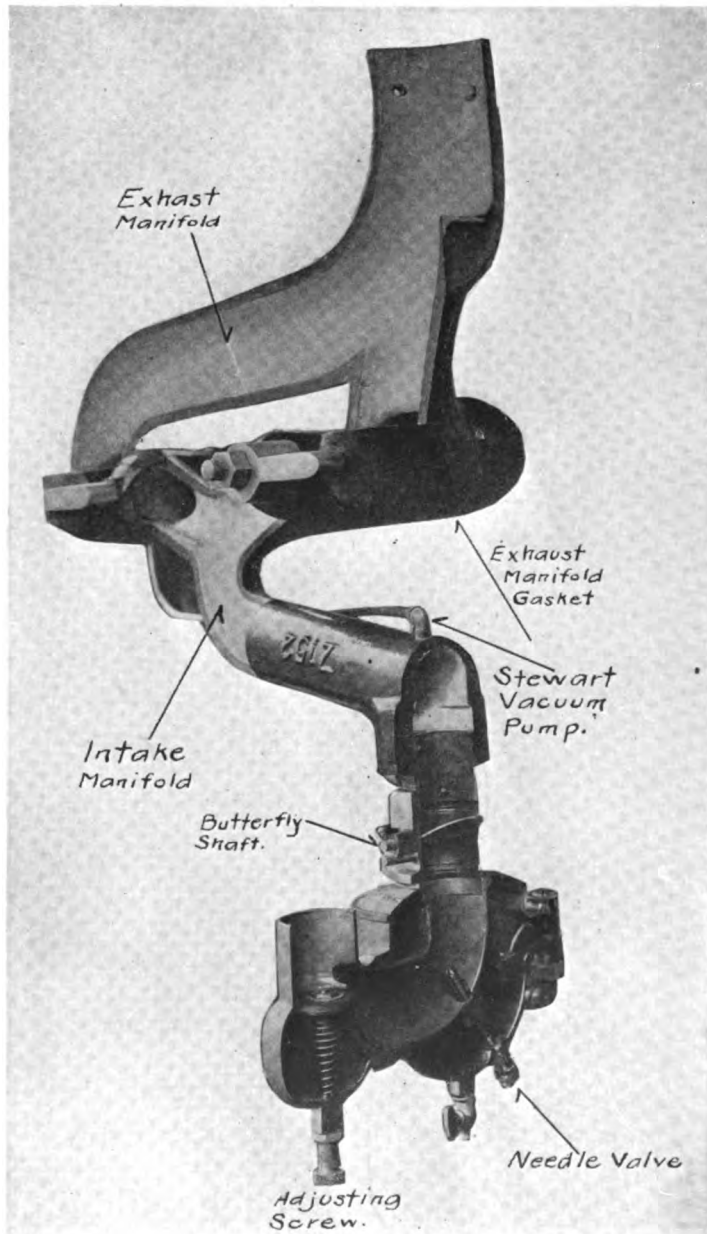

Fig. 19.
- 159** — Fig. 19 shows a cut-away section of the carbureter, intake and exhaust manifold on the “75” engine with the various parts indicated.